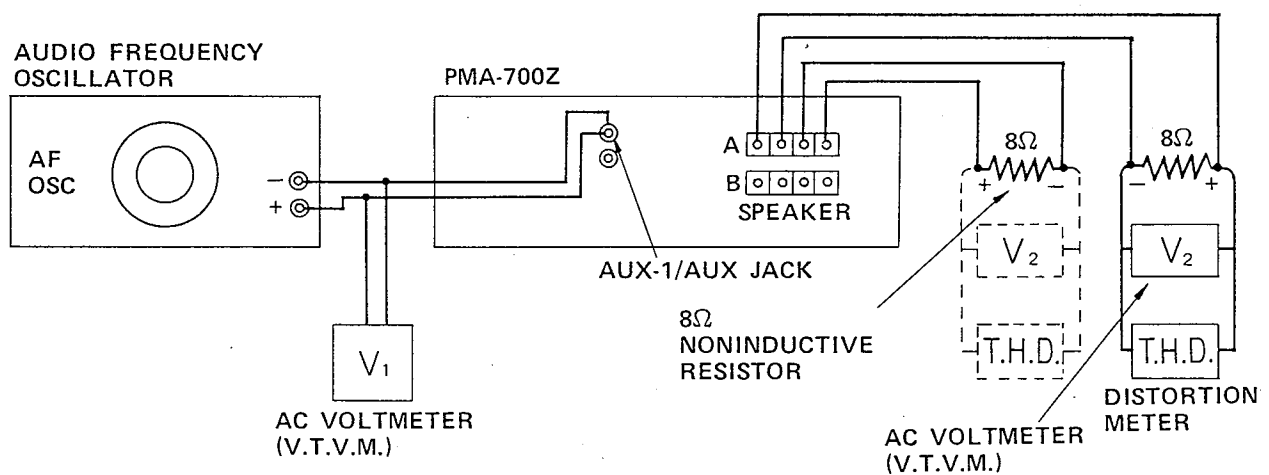

Fig. 21
- B. Connection of other instrument refer Fig. 21.